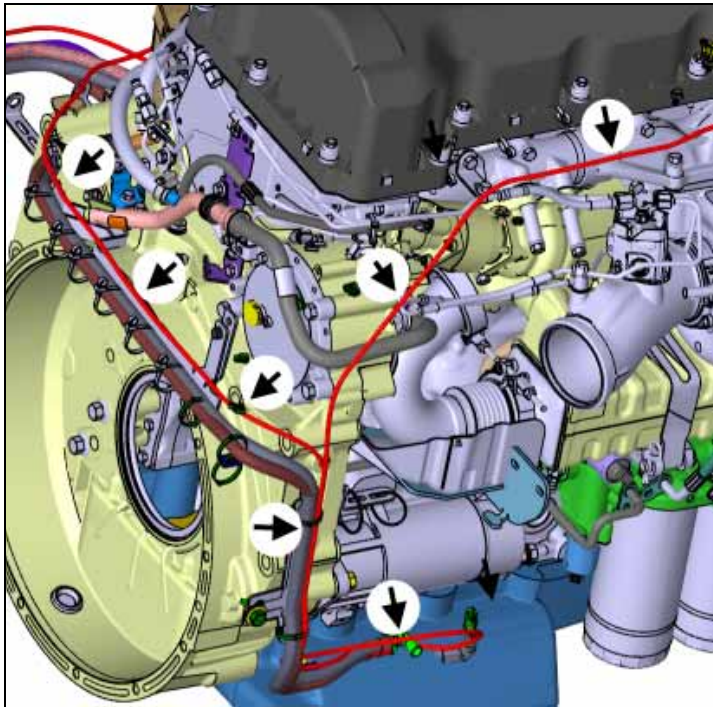
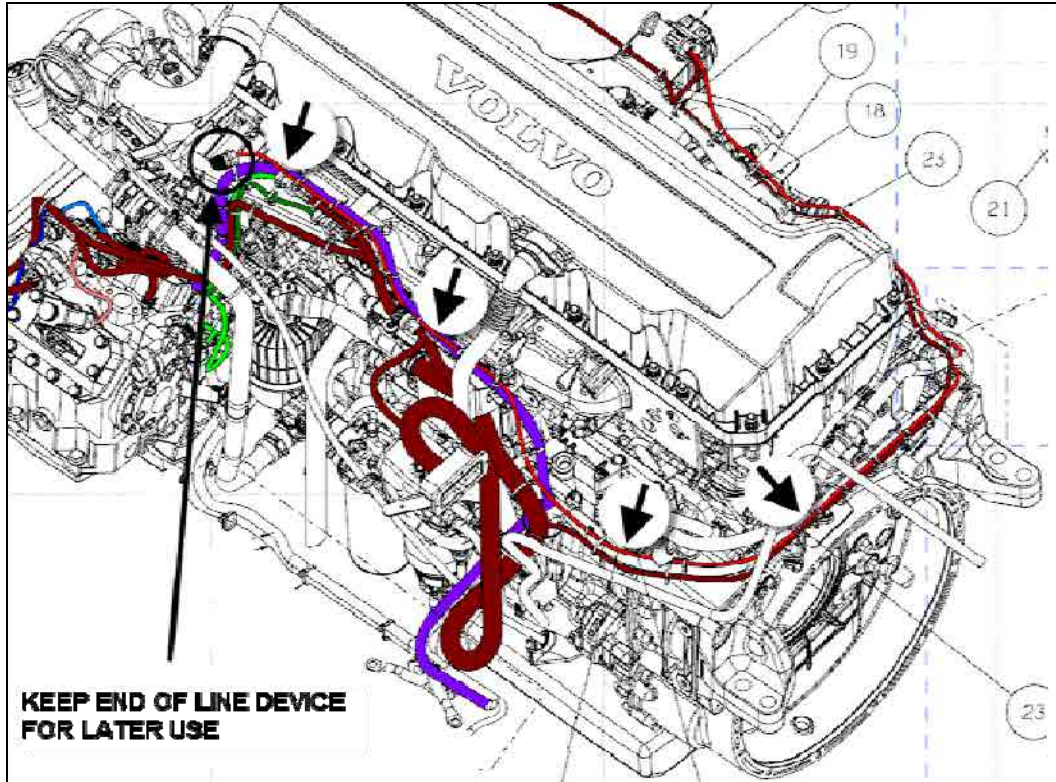

FIGURE 10: ENGINE HOT SIDE - REMOVE LTD
FIGURE 11: ENGINE COLD SIDE - REMOVE LTD, KEEP THE END OF LINE DEVICE (EOL) FOR REUSE
- 12) Starting from the IR sensor support, cut all nylon cable ties securing the LTD (cable with red sheath). On the engine **hot side**, the LTD is routed under the starter and forms a loop and then comes back and runs to the cold side of the engine (figure 10). On the **cold side**, the LTD is routed as shown on figure 11. Keep the end of line device (EOL) found at the end of the LTD for reused.